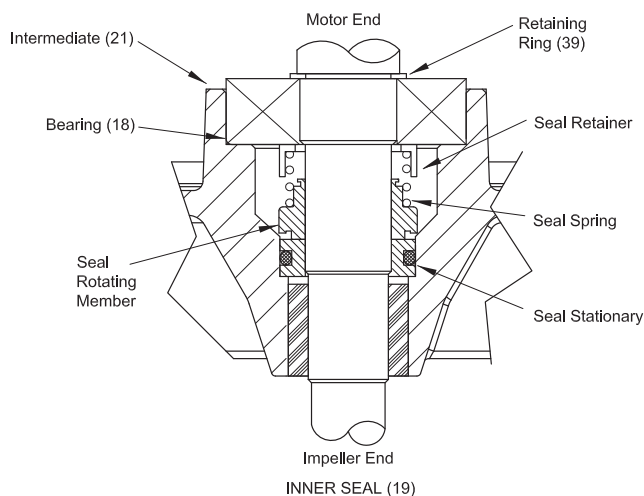

Figure 3
Bearings & Inner Seal - Remove seal (19) rotating member and spring from rotor shaft. Press stationary from intermediate (21) with flat screwdriver. Examine all seal parts. Inspect contact faces for signs of uneven wear tracks on stationary, chips and scratches on either seal face. **DO NOT interchange seal components, replace the entire shaft seal (19).** Remove retaining ring (39) from shaft. Using a wheel puller or arbor press remove bearing (18) from shaft. Remove upper motor bearing from shaft with a bearing puller. (See Figure 3)
Make sure spring is seated in retaining ring and spring is lined up on rotating member and not cocked or resting on bellows tail. (See Figure 3)